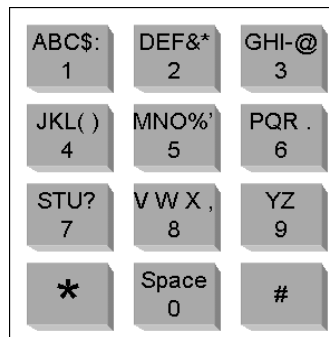

Figure 2. Alternate Keypad Functions
Refer to Figure 2 for the different characters available for each key. Press each key until the desired character displayed. Press the (#) key to accept the character and continue to the next character. When you have finished entering Wash Name, press the enter (*) key.
2. Use the diagram of alternate keypad functions in Figure 2 to assist you in programming the name of your friction wash method.
3. Again using Figure 2, program the name of your touchfree wash method.